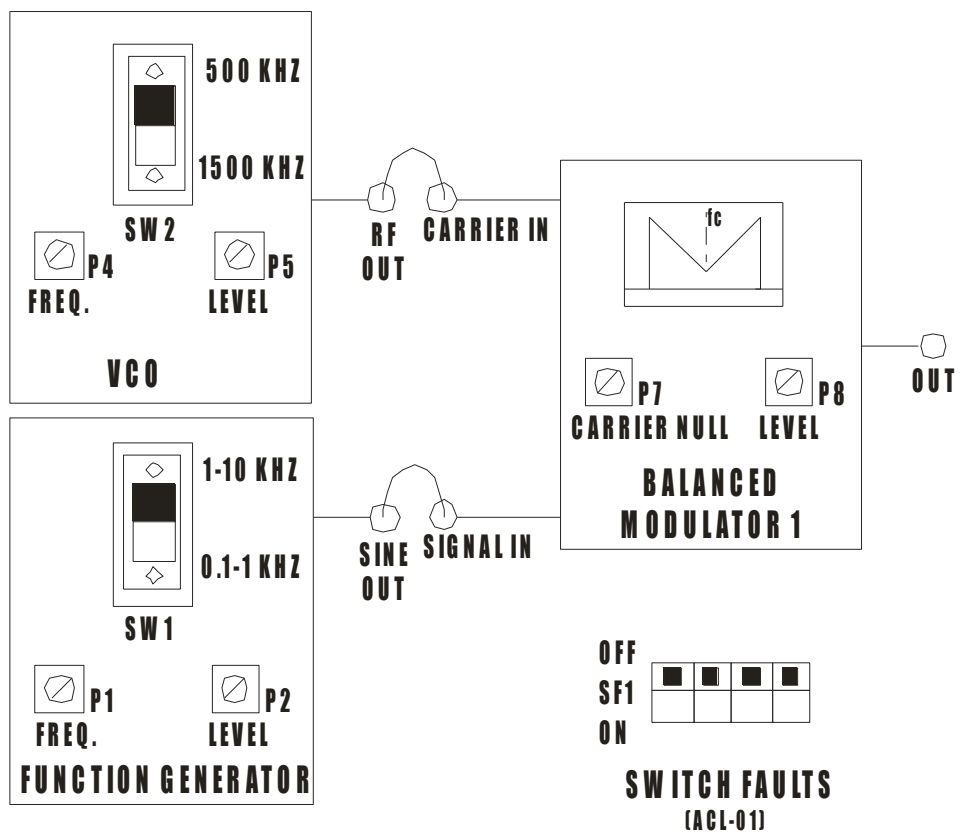

FIG.4.11 BLOCK DIAGRAM FOR STUDY OF AM GENERATION WITH SUPPRESSED CARRIER
1. Refer to the FIG. 4.11 & Carry out the following connections.